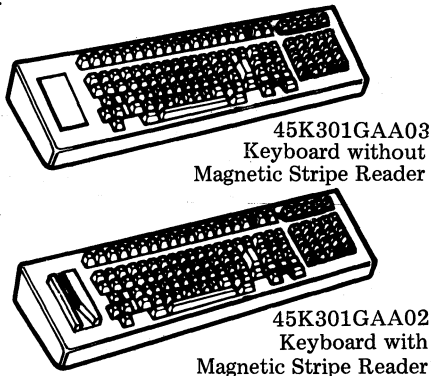

Fig. 1--DATASPEED 4500 Keyboards
1.01 This section provides disassembly/reassembly, adjustment, and parts information for the DATASPEED 4500 series keyboards as in Fig. 1.